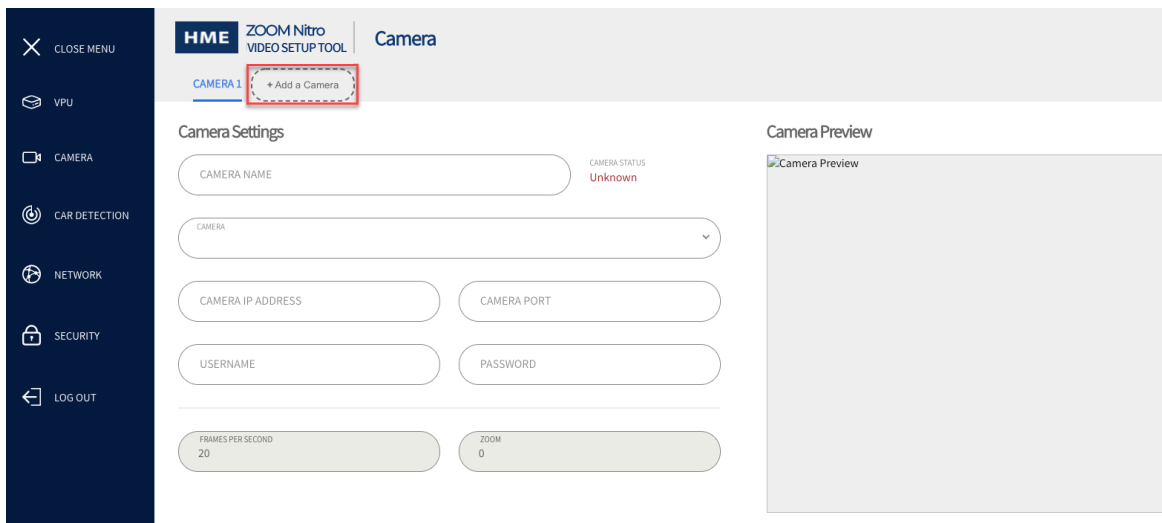

Fig. 8.1
2. Select CAMERA from the sidebar menu and then, tap on “+ Add a Camera,” see Fig. 8.1.